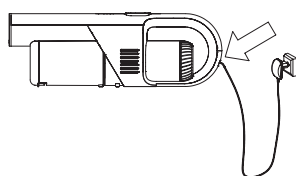
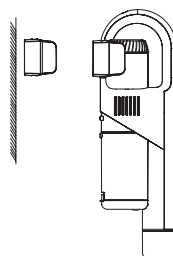

Рис.9
Рис.10
- Insert the plug of the power supply unit connecting cord into the battery socket of the vacuum cleaner (14), plug the power supply unit into the socket (fig. 9), the operation/charging indicators (3) will light up, the light indicators (3) will show the charging state of the battery.
- At the end of the charging cycle of the battery (14), four indicators (3) will light up.
- After the end of the charging cycle, insert the vacuum cleaner in the wall-mounted holder (13) (fig. 10).